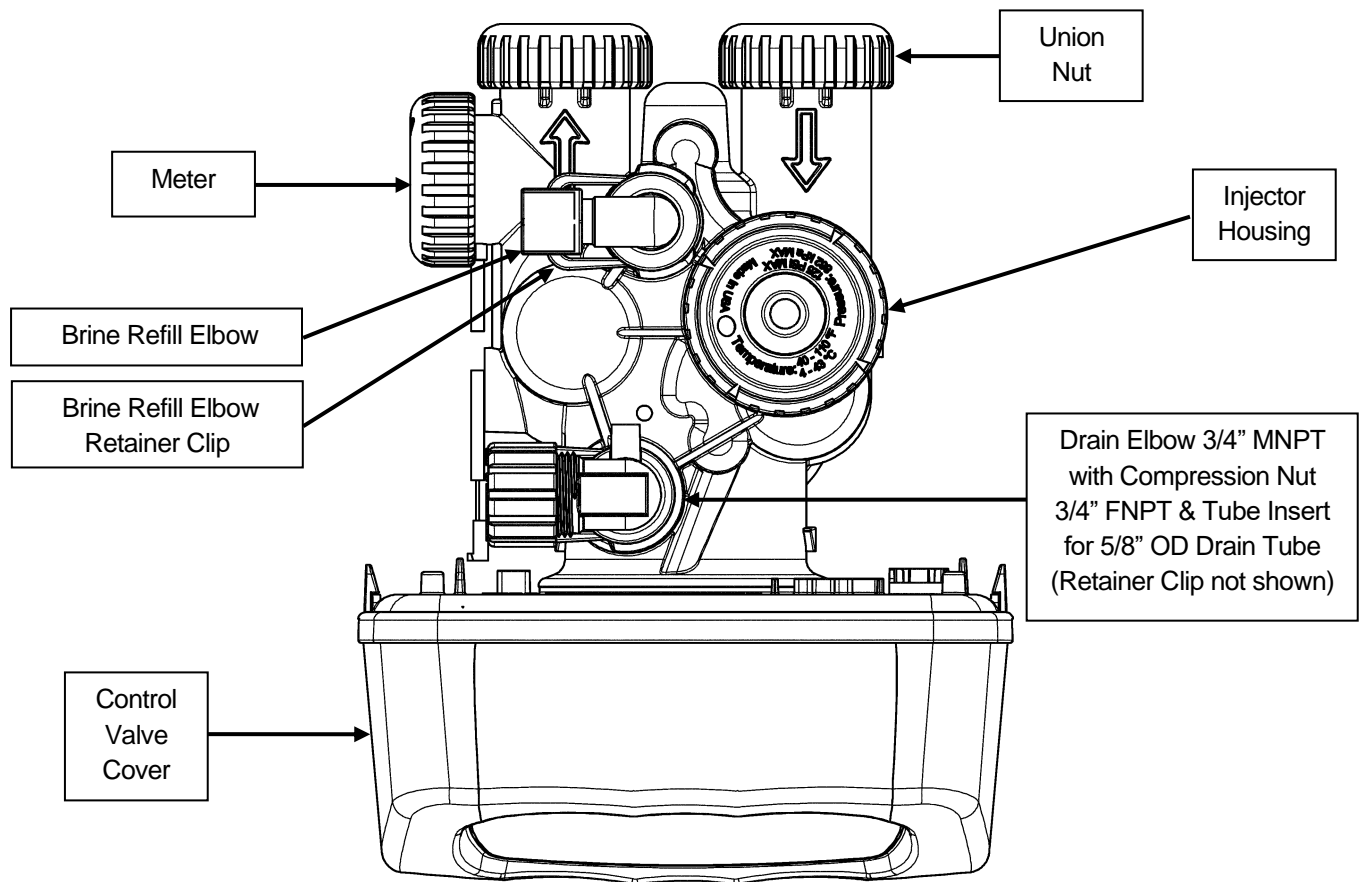
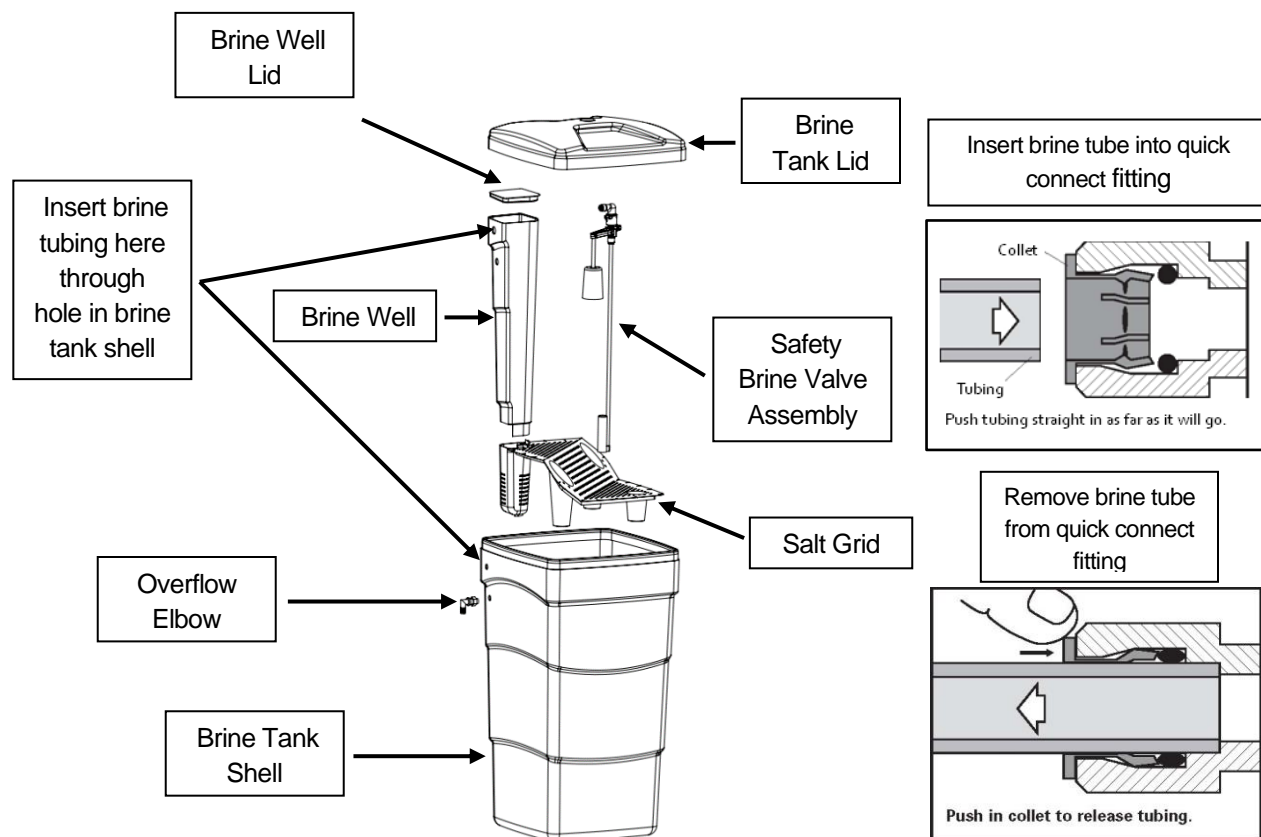

FIGURE 2: Top View of Control Valve
FIGURE 3: Brine Tank Components
- STEP 2:** Using the integrated coupling nuts, attach the bypass valve to the inlet/outlet of the control valve and put handles in the bypass position (Figure 2).
- STEP 6:** Use the provided polyethylene tubing (**NO VINYL TUBING**) to run drain line from control valve drain fitting (Figure 2) to laundry drain, floor drain or sump pit capable of handling the backwash rate of the softener (refer to specifications on Page 12 - 13). **THE DISCHARGE END OF THE DRAIN LINE MUST BE FIRMLY SECURED!** There must be an air gap at the end of the drain line to prevent siphoning of wastewater and meet plumbing code. Total length of drain line should be 15' or less. AVOID OVERHEAD DRAINS.
- STEP 7:** Connect one end of the 3/8" brine line to the control valve quick connect brine refill elbow (Figure 2, Page 5). Insert the other end of the brine line through the hole in the brine tank and into the quick connect fitting on the top of the safety brine valve (Figure 3). Remove the quick connect collet retainer clip (if included) before inserting the brine line into each fitting, press the tube in very firmly and replace the retainer clip behind the collet. **NOTE: THE BRINE TUBING SHOULD BE INSERTED 5/8" INTO THE FITTING. DO NOT PUT SALT INTO THE BRINE TANK AT THIS TIME.**
- STEP 8:** If desired, install overflow tubing (not provided) from overflow elbow on brine tank (Figure 3) to floor drain. Tubing must be lower than the overflow elbow at all times. **DO NOT CONNECT DRAIN LINE FROM SOFTENER CONTROL VALVE TO BRINE TANK OVERFLOW. DO NOT CONNECT BRINE TANK DRAIN LINE TO THE SOFTENER DRAIN LINE.**